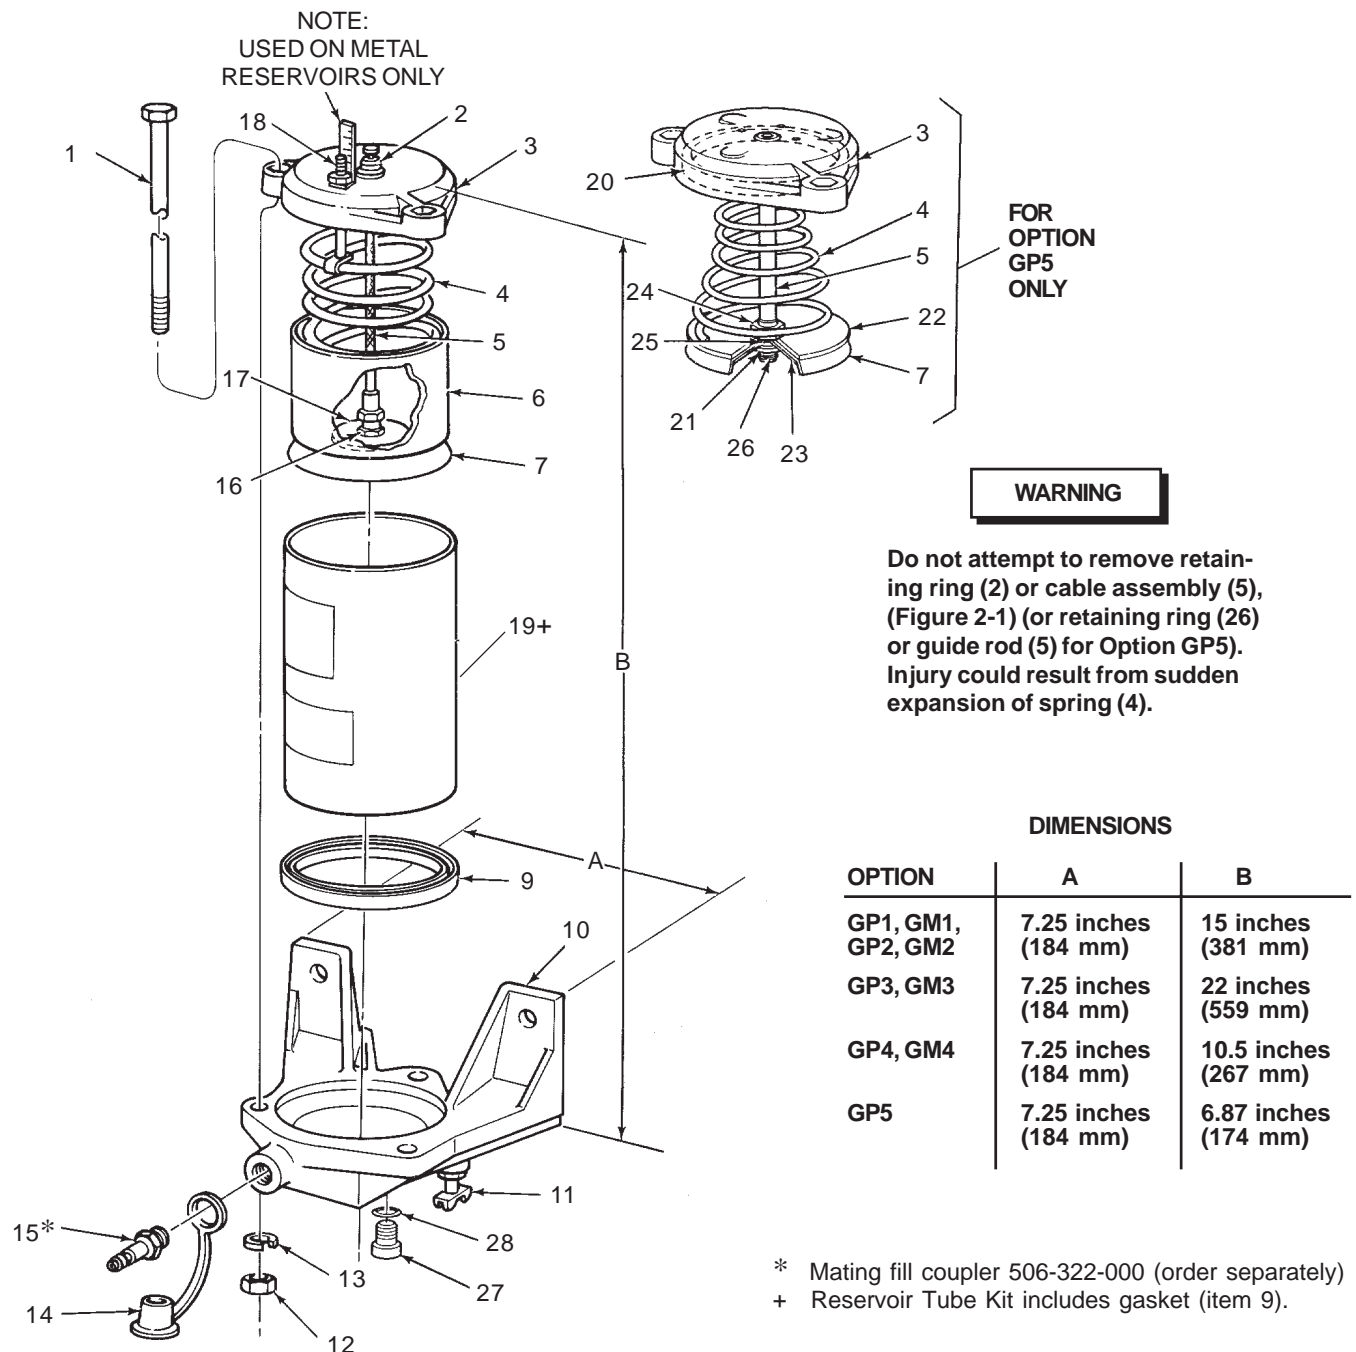

Figure 2-1. Grease Reservoir - Exploded View
2.4.1 General. Maintenance tips, disassembly, and assembly procedures for grease reservoirs are discussed in Paragraphs 2.4.2, 2.4.3 and 2.4.4. An exploded view of a typical grease reservoir is shown in Figure 2-1 and should be referred to during the discussion.
- a. Visually inspect the reservoir for lubricant leaking between reservoir tube (8, Figure 2-1) and base (10). This may indicate a bad gasket (9) or that the hex nuts (12) are not tight. Torque the nuts to 5 ft lbs. If the leakage continues, replace gasket (9). Check for cracks and nicks in tube (8). Replace the tube as required.
- b. Visually inspect the reservoir tube (8) for dents which may restrict the movement of the follower cups (6 and 7). Replace the tube as required.
2.4.3 Disassembly of Grease Reservoirs. Figure 2-1 shows a typical grease reservoir but does not include other Modu-Flo components which may be mounted to the reservoir. These components include the manifold, pump, level switches and high-pressure blowout switches. Disassembly of the reservoir may require that some of these components be removed. The manifold and pump do not normally require removal, but may be removed if desired. The level and blow-out switches may or may not require removal, depending on the level of disassembly required. The electrical connections to the switches probably should be disconnected in order to remove various parts without restriction of movement by the electrical cord. The removal of these components is explained in other sections of the manual. Refer to the table of contents to find where the components are discussed.
Do not attempt to remove retaining ring (2) or cable assembly (5) (Figure 2-1) (or retaining ring (25) or guide rod (5) for Option GP5). Injury could result from sudden expansion of spring (4).
- a. Slowly open petcock (11) and allow lubricant to be forced from the reservoir into a bucket or similar container. Remove fill stud (15) and petcock (11) if necessary. Properly dispose of emptied grease.
- b. Remove hex nuts (12) and lockwashers (13) from tie rods (1). Remove tie rods (1) from cap (3).
- c. Lift reservoir tube (8) from base (10) keeping reservoir cap (3) in position on top of the tube.
- d. Slide reservoir tube (8) away from reservoir cap (3) until it is free of follower cup (7).
- e. Remove gasket (9) from bottom of reservoir tube (8).
- f. Further disassembly is only possible at the factory. If damage is apparent on the follower cups (6 and 7), cable assembly or guide rod (5), spring (4) or reservoir cap (3) the unit cannot be serviced and the reservoir assembly must be replaced.
- a. Slide reservoir tube (8, Figure 2-1) over follower cup (7) being careful not to distort the follower cup lips. Slide reservoir tube (8) up until it contacts reservoir cap (3).
- b. Install new gasket (9) on bottom of reservoir tube (8).
- c. Place reservoir tube (8) with gasket (9) on base (10) and rotate reservoir cap (3) until holes in the cap line up with holes in the base (10).
- d. Install tie rods (1) through holes in reservoir cap (3) and base (10).
- e. Install lockwashers (13) and hex nuts (12) on tie rods (1) and torque to 5 ft lbs.
- f. Install fill stud (15), dust cap (14) and petcock (11) in base. Make sure petcock (11) is in the closed position.
2.4.5 Grease Reservoir Parts Lists. Table 2-2 identifies the parts indexed in Figure 2-1.